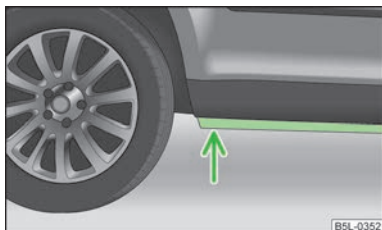

Fig. 134
- Therefore determine the depth of the water before driving through bodies of water. The water level must fit around the strut on the side member as a maximum » Fig. 134;